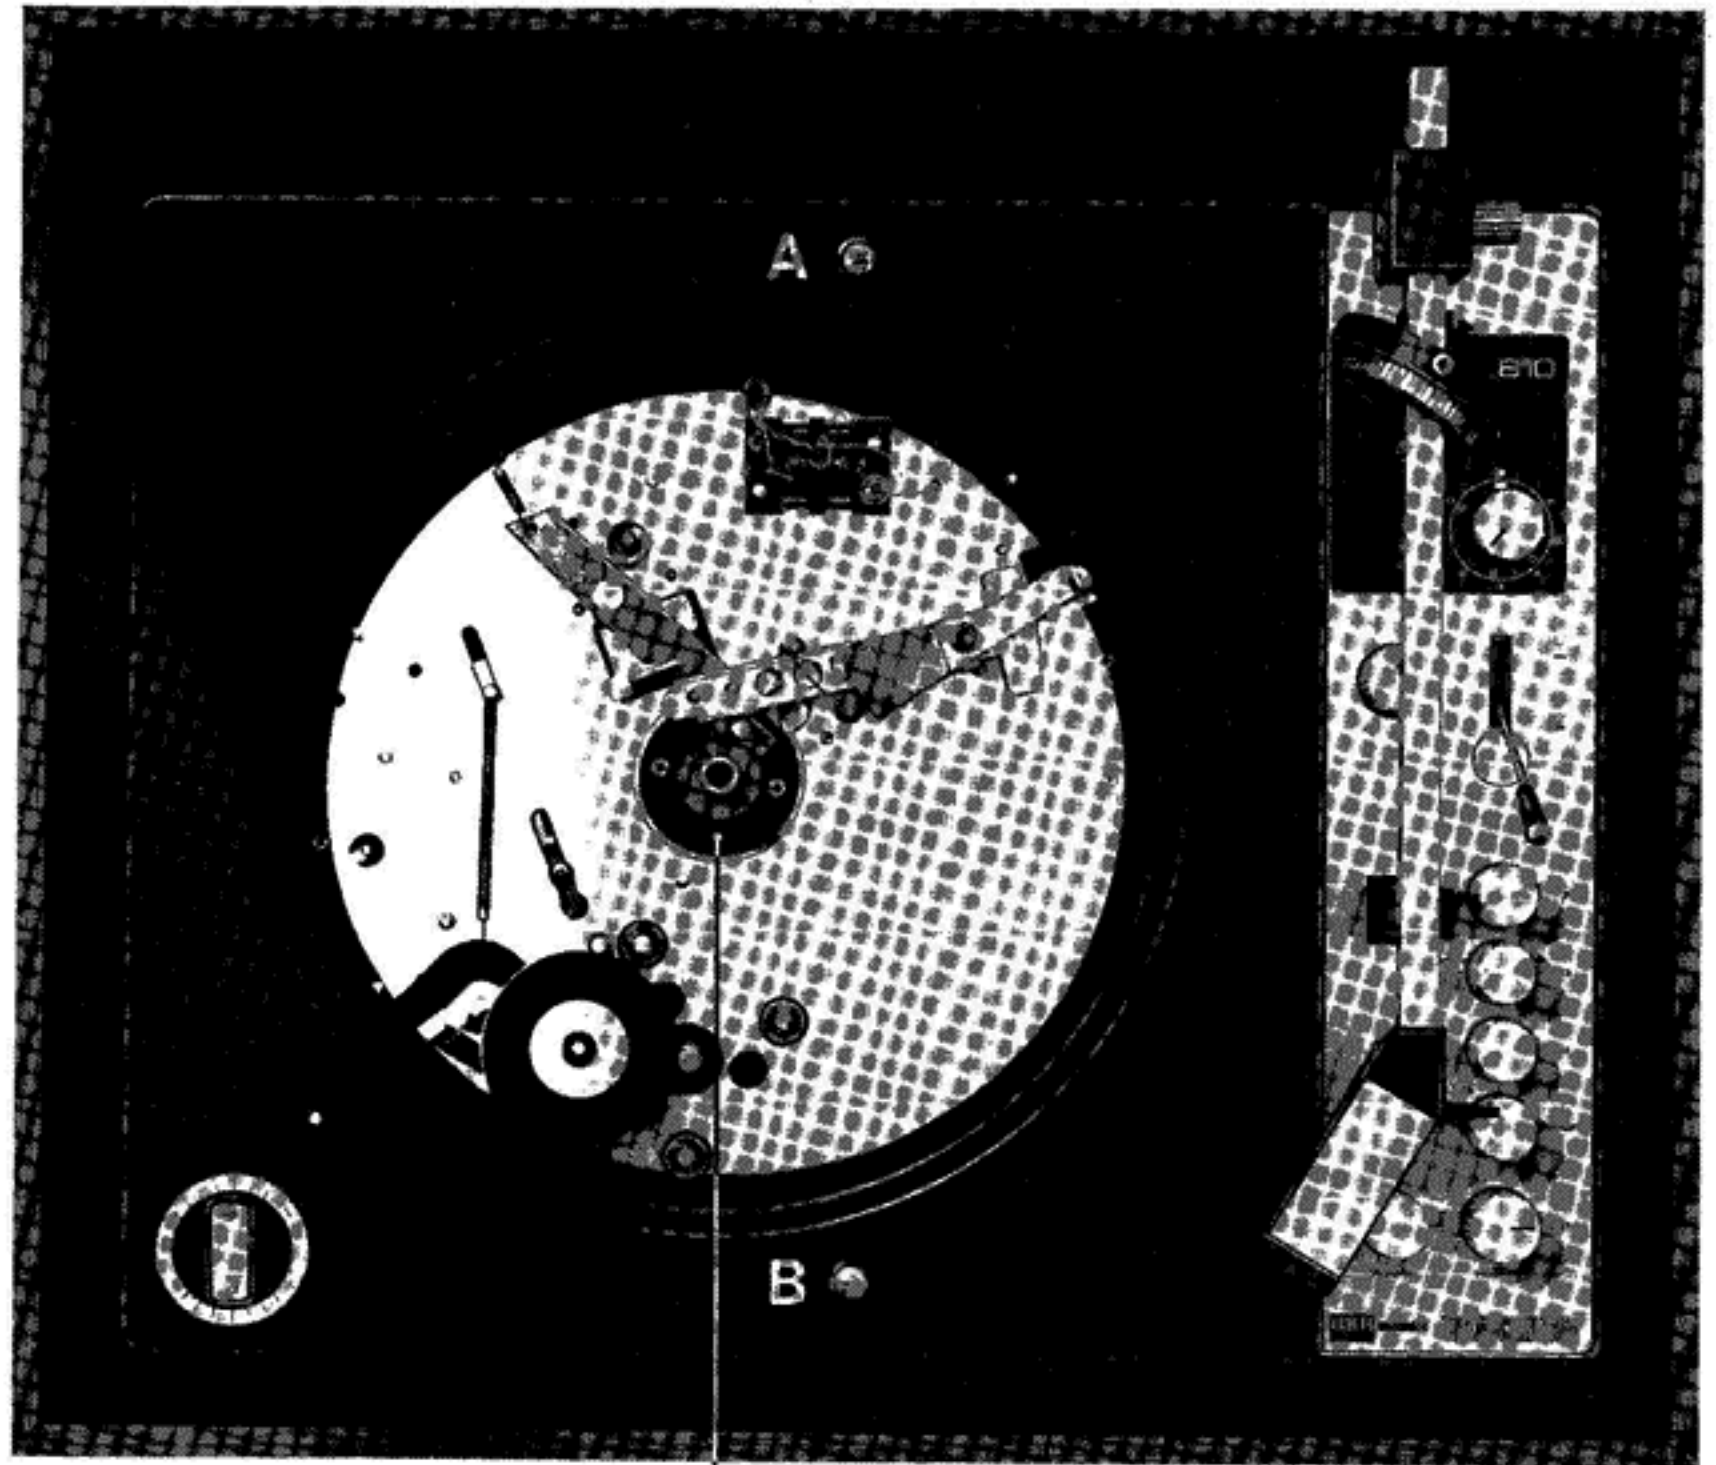

Fig. 2
- 5 Two holes are provided in the unit plate, one at the front and one at the rear of the turntable well (Fig. 2, A and B). These come directly above the two pilot holes drilled in the motor board. If it is necessary to ship or transport your unit after installation, secure it to the motor board with the two round head wood screws and fiber washers supplied.
- a Remove Transit Screws and Washers (Fig. 2, A and B) if fitted and retain for future use.